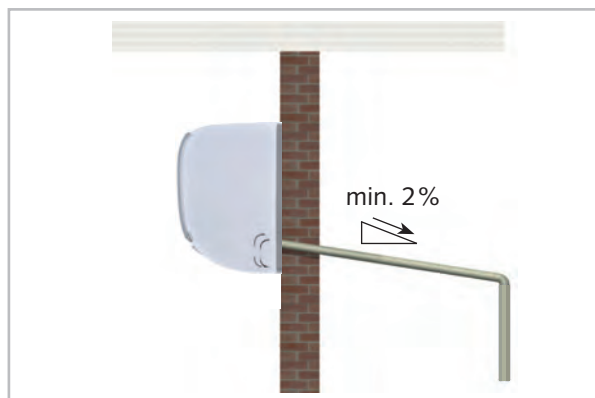

Fig. 36: Condensate drainage connection - Indoor unit
- The condensate drainage line should have an incline of min. 2% (Fig. 36). This is the responsibility of the customer. If necessary, fit vapour-diffusion-proof insulation.